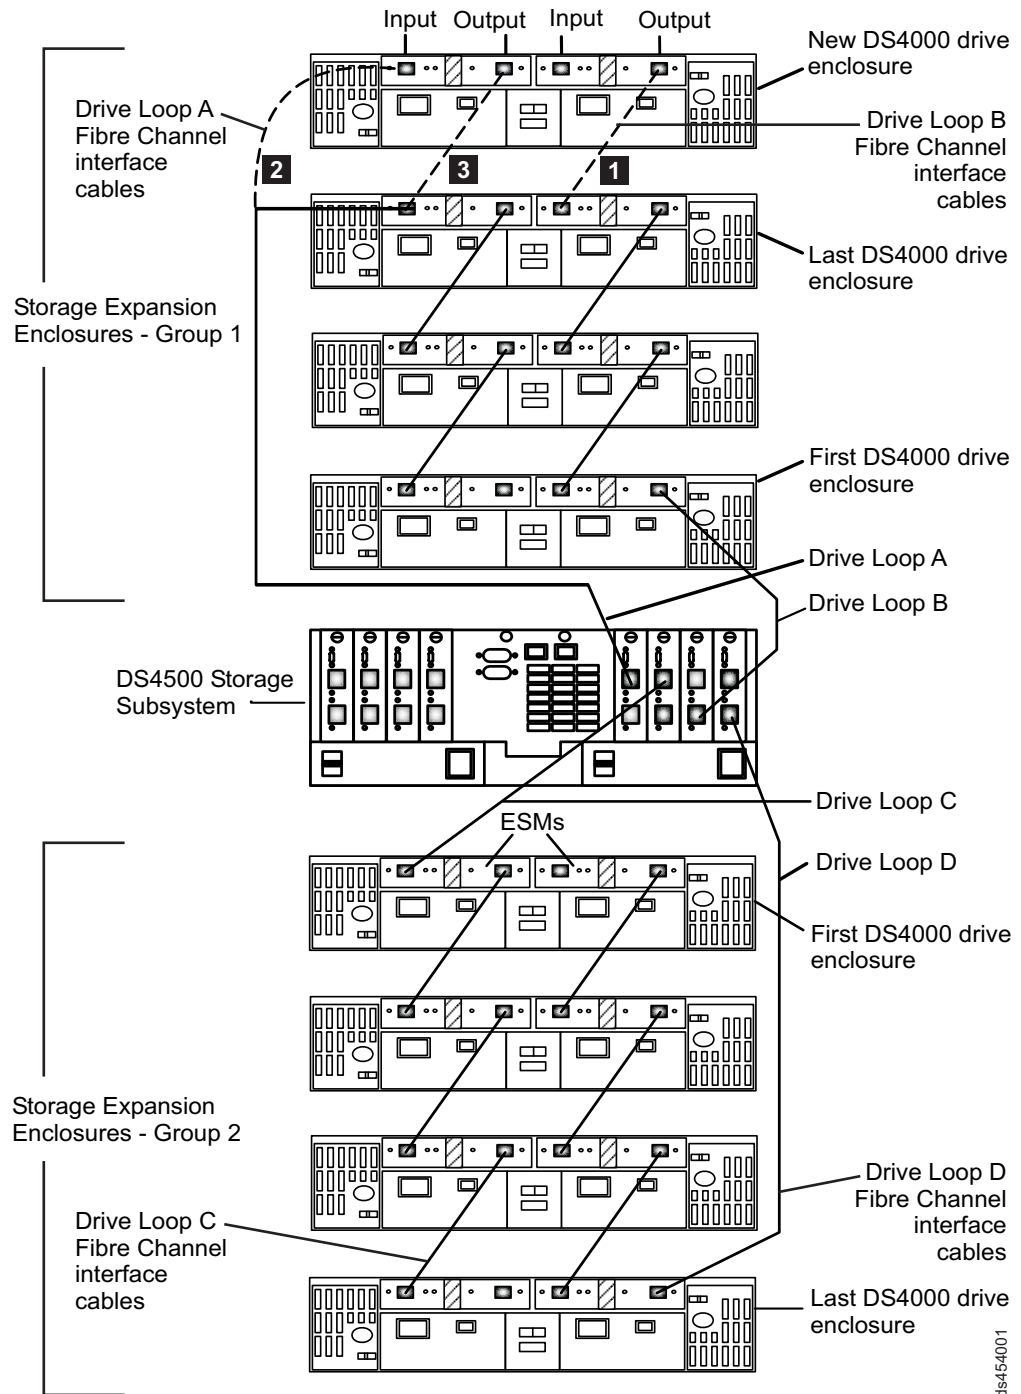

Figure 45. Cabling the EXP100 to two redundant loops
Figure 45 on page 71 shows an example of a DS4500 configured with four drive loops. Drive loops A and B form one redundant Fibre Channel loop. Drive loops C and D form the second redundant Fibre Channel loop.
The numbers corresponding to the dashed lines in Figure 45 show how to add a new EXP100 to an existing DS4500 configuration with EXP100s attached, as described in the following steps.
To add the new EXP100 shown in Figure 45, perform the following steps:
2. Make the Fibre Channel connection marked (**1**) in Figure 45 (drive loop B).
4. Make the Fibre Channel connection marked (**2**) in Figure 45 on page 71.
5. Make the Fibre Channel connection marked (**3**) in Figure 45 on page 71 (drive loop A).